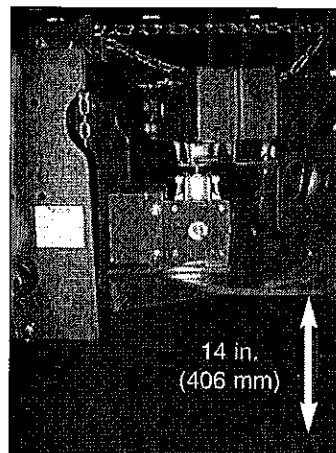

Figure 4
- a. Raise the 3 pt. hitch until the center of the mounting frame's rear half-moon plate is 14" (356 mm) above the ground. (Figure 4)